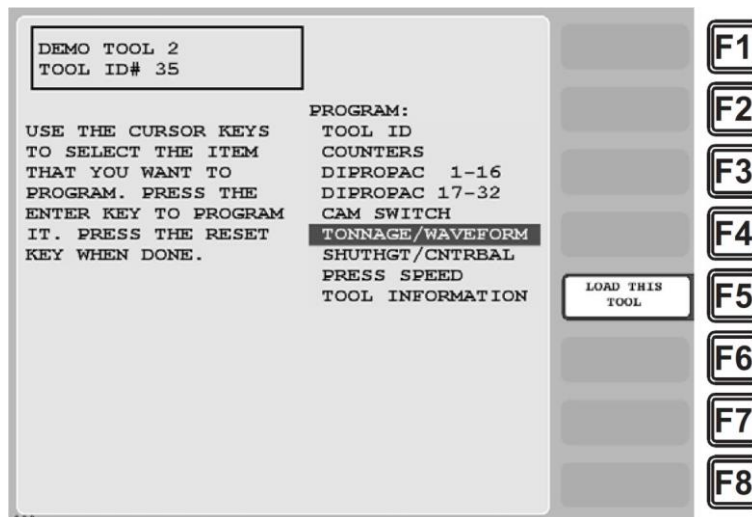

Figure 4-4. Tool Programming Menu
- Highlight the tool you wish to Program, and press F4 (Edit Tool). The Tool Program Menu displays (see Figure 4-4).
1. On the Tool Programming Menu (see Figure 4-4), press the F5 (Load This Tool) function key. The warning message shown in Figure 4-6 displays.
2. Key in a new tool number in the Numeric Entry window, and press ENTER. You are taken to the Tool Programming Menu (see Figure 4-4) with the tool number you specified in step On the Tool Manager screen displayed in the screen header in the upper left corner.